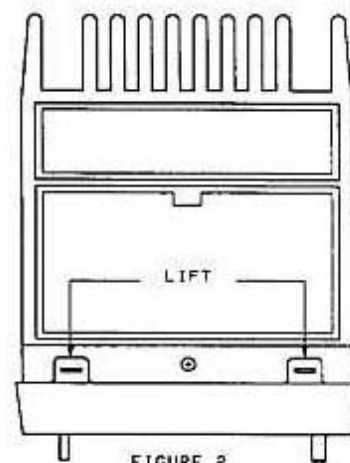

FIGURE 2
5. Gently lift the two tabs on the bottom of the front panel and then pull the front panel off the transceiver. Figure 2.
4. Remove the 7 screws that secure the final board to the chassis. Figure 2.
5. Remove the 2 screws that secure the power module to the chassis. Figure 2.
7. Desolder the center conductor and shield of the VHF antenna coax from the final board and pull the coax out of the heat sink. Figure 2.
8. Desolder the terminal next to pin 3 of the power module. Figure 2.